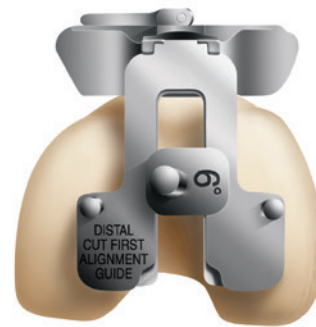

Figure 5
- 3 Orient rotation of the assembly neutral to the posterior condyles (Figure 5) and impact one or both of the floating spikes into the distal femur.